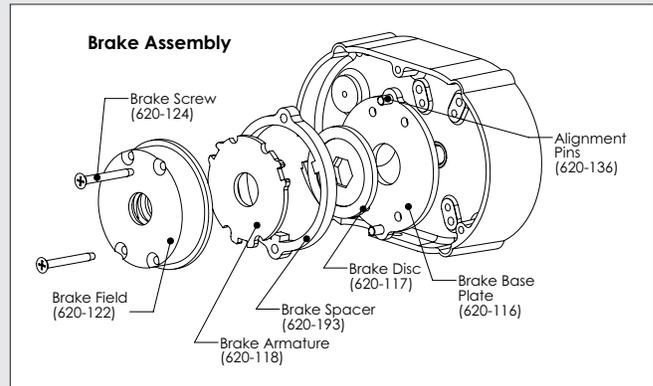

Figure 8B
1. Refer to Figure 8B and disassemble the brake. Depress and hold the field assembly (620-122) while removing the four brake screws (620-124). The field assembly is under spring pressure and will spring-out if not held. During disassembly, note there is a small leaf spring (620-121) on the brake driver (620-119) and this will spring-out when the brake disc (620-117) is removed. Examine the base plate (620-116), hex driver (620-119), brake disc (620-117) and armature (620-118) for excessive wear, scoring or warpage. Make sure the brake disc is not glazed, the coil firmly fixed in the field (620-122) and the